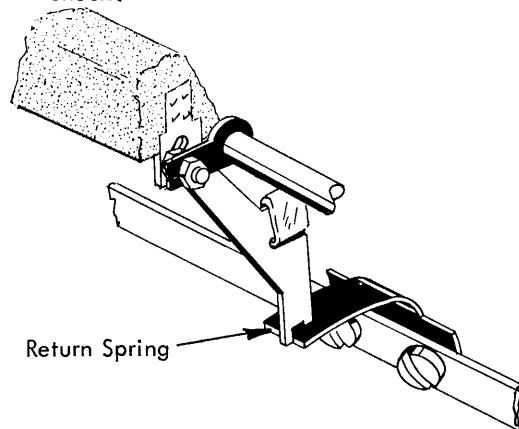

FIGURE 188. Spacebar Return Spring (Early Style)
- a. Early Style - Adjust the return spring front to rear so that the top of the spacebar is level. The spring should be formed up or down so that a weight of 2-1/2 ounces will just fail to trip the spacebar interposer (Fig. 188). The medium screwdriver, which weighs 2-1/2 ounces, can be used for this check.